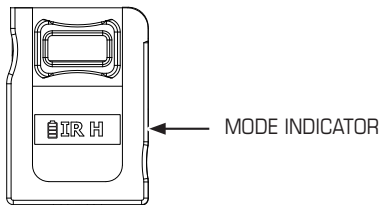

Figure 3.5-1 Display Features
- Step 2.)** Turn the Mode Selection Knob to select the desired mode of operation. When the power is on in any mode, the Display illuminates. The active mode of the laser appears on the Display (see Figure 3.5-1). If the *RAID Xe* Display indicates that a low battery condition exists when powered on, replace the battery as described in Section 4.2.